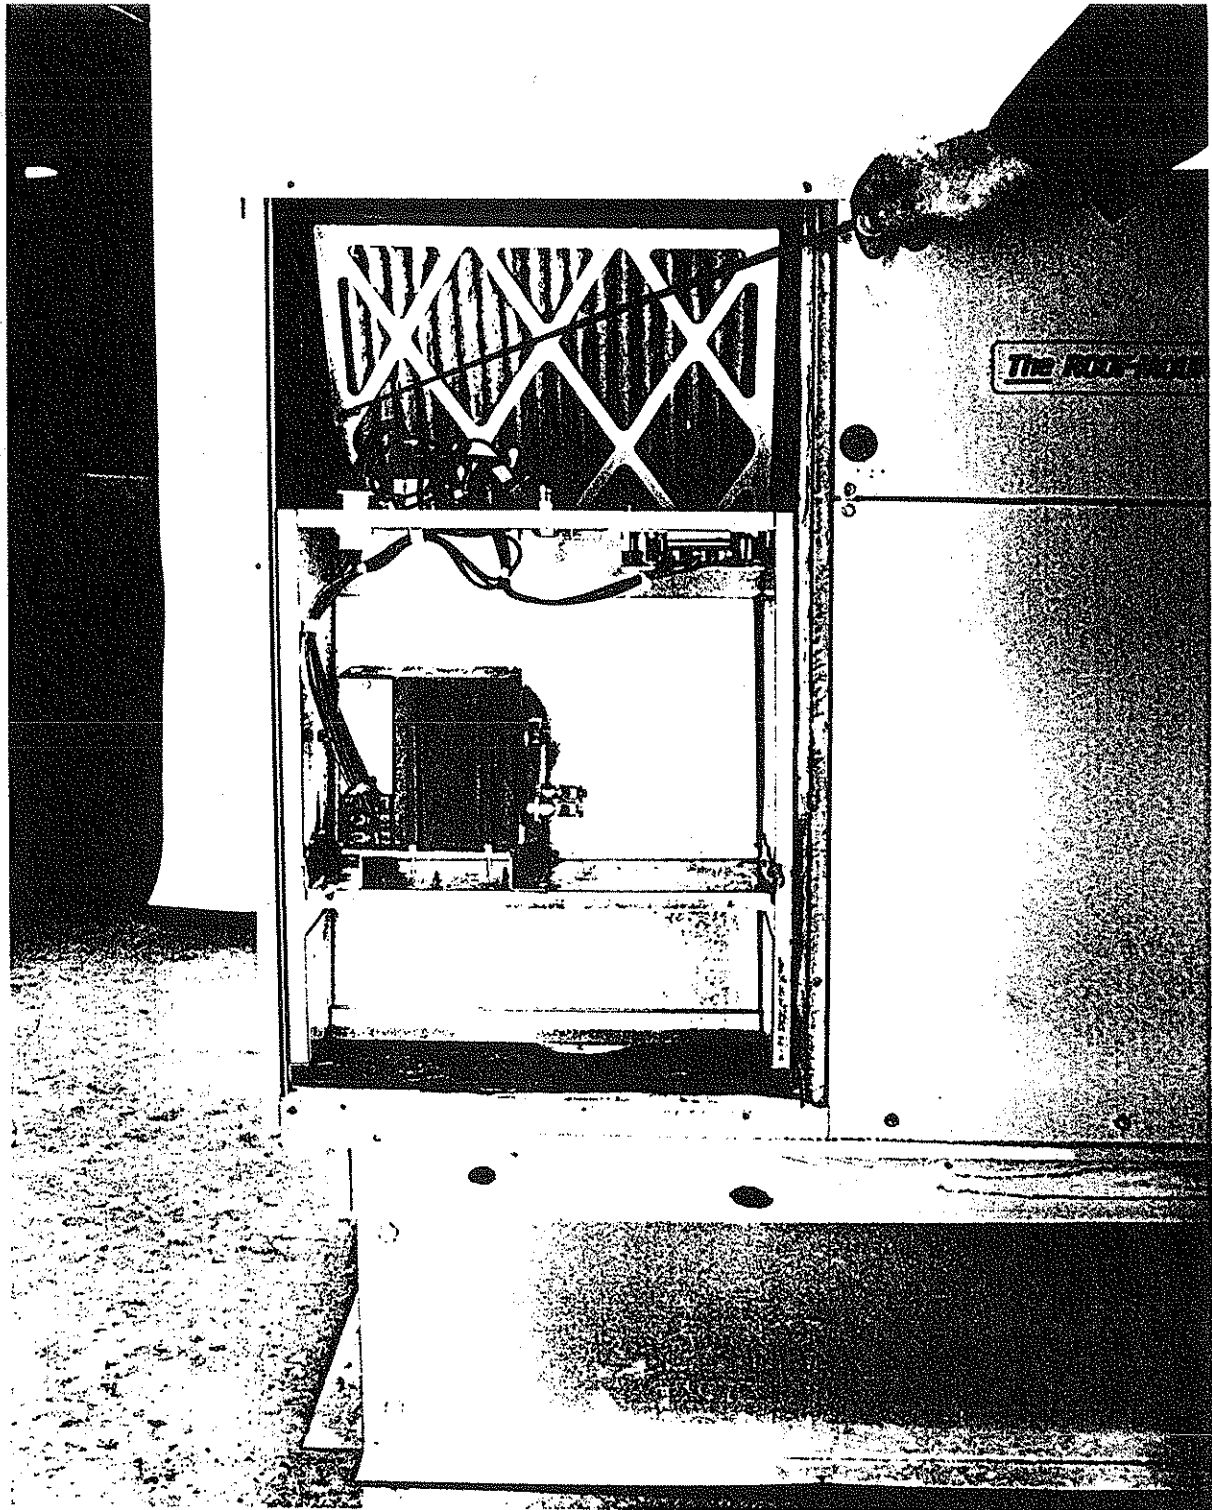

Figure 6.
6. Install the filter, taking care to route sensor leads and harness around side of filter by compressing unit insulation. Also take care to place the filter in the rack with the arrows on the filter rack in the direction of air flow (towards coil). See Figure 6.